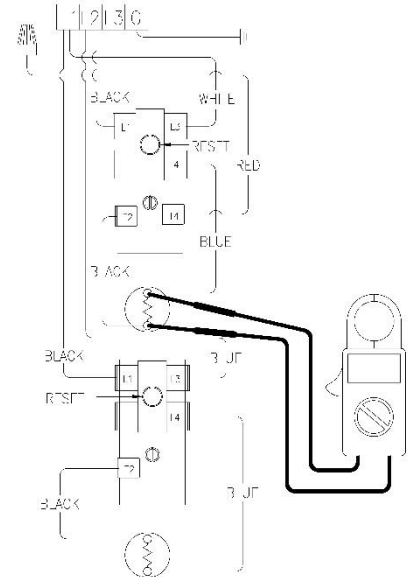

Figure 13
6. Check across upper element terminals (see Figure 13).